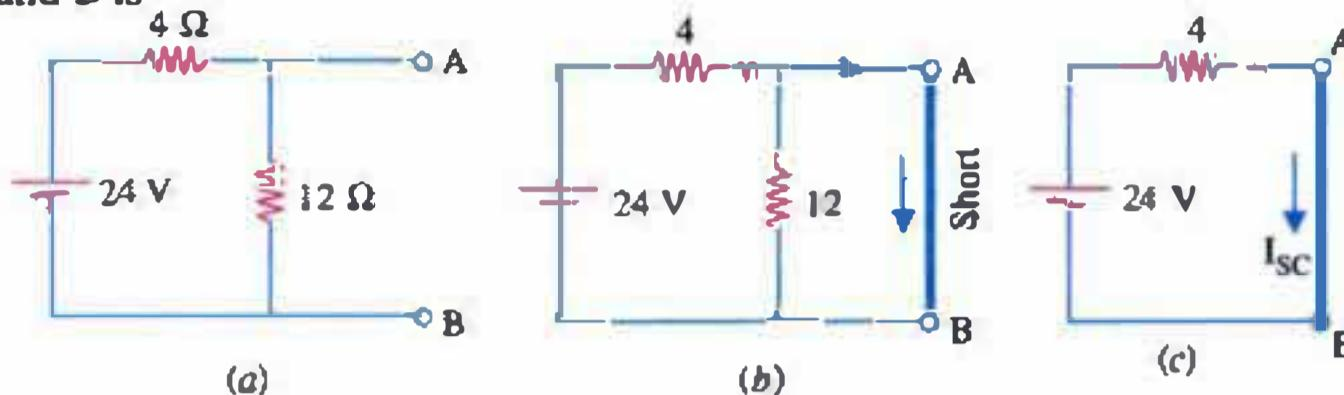

Fig. 4.16
Suppose we want to Nortonise the circuit shown in Fig. 4.16 (a) i.e., we want to find Norton's equivalent of this circuit between terminals A and B.
**I. First Step.** Put a short across terminals A and B [Fig. 4.16 (b)]. As seen, it results in shorting out  $12 \Omega$  resistor as
shown separately in Fig. 4.16 (c).
Hence, Norton's equivalent of the given circuit in Fig. 4.16 (a) becomes that shown in Fig. 4.17 (b). It consists of a 6 A constant-current source (of infinite resistance) in parallel with a 3 Ω resistance.